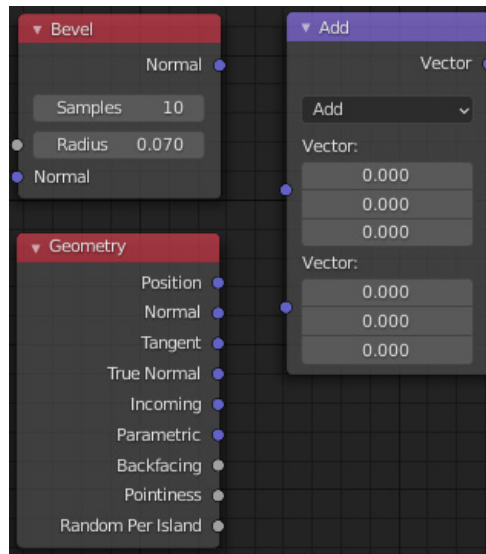

Figure 4.21 – Vector Math node
7. In the **Add** menu, search for and add the **Vector Math** node and place it as shown in *Figure 4.21*. When added, the node will appear as **Add** by default.